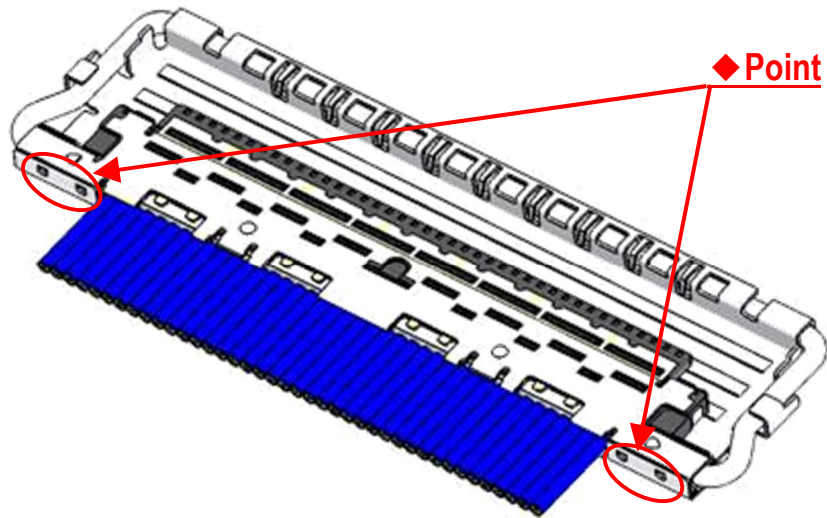

Fig.12 Soldering of Shell-A and Shell-B
- ⑤ Soldering shell-A and shell-B with the soldering iron at all designated points is recommended. (Fig.12◆point)